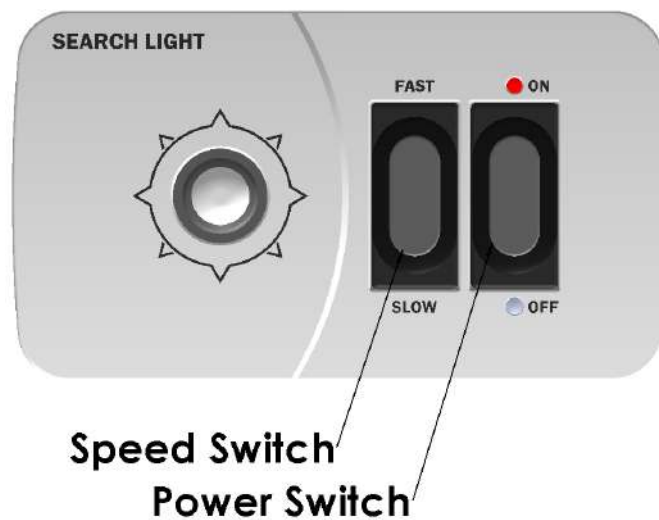

Fig. 7 Joystick Controller Panel Instruction (Model 13.226.49)
4. See Fig. 7 for Joystick Controller panel instruction.